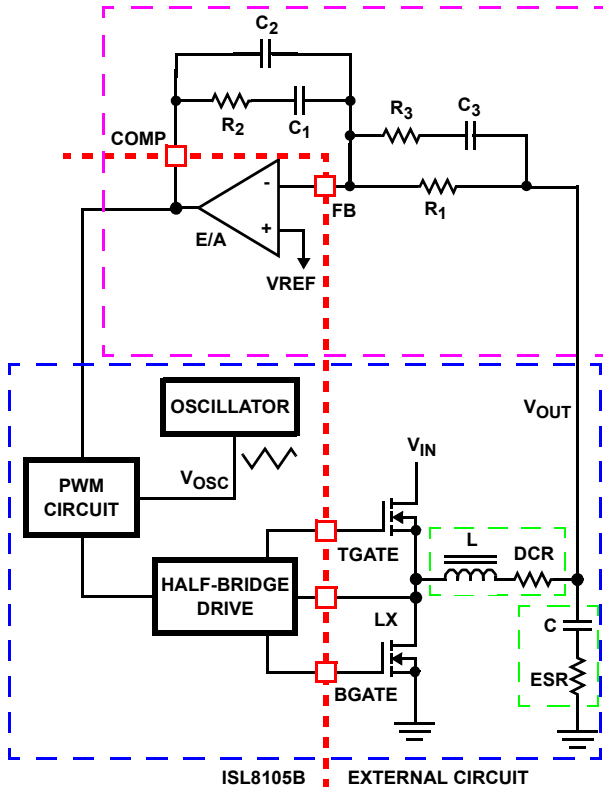

FIGURE 9. VOLTAGE-MODE BUCK CONVERTER COMPENSATION DESIGN
This section highlights the design considerations for a voltage-mode controller requiring external compensation. To address a broad range of applications, a type-3 feedback network is recommended (see Figure 9).
Figure 9 highlights the voltage-mode control loop for a synchronous-rectified buck converter, applicable to the ISL805B circuit. The output voltage ( $V_{OUT}$ ) is regulated to the reference voltage,  $V_{REF}$ , level. The error amplifier output (COMP pin voltage) is compared with the oscillator (OSC) triangle wave to provide a pulse-width modulated wave with an amplitude of  $V_{IN}$  at the LX node. The PWM wave is smoothed by the output filter (L and C). The output filter capacitor bank's equivalent series resistance is represented by the series resistor ESR.
The compensation network consists of the error amplifier (internal to the ISL8105B) and the external  $R_1$  to  $R_3$ ,  $C_1$  to  $C_3$  components. The goal of the compensation network is to provide a closed loop transfer function with high 0dB crossing frequency ( $F_0$ ; typically 0.1 to 0.3 of  $f_{SW}$ ) and adequate phase margin (better than  $+45^\circ$ ). Phase margin is the difference between the closed loop phase at  $F_{0dB}$  and  $+180^\circ$ . The equations that follow relate the compensation network's poles, zeros and gain to the components ( $R_1$ ,  $R_2$ ,  $R_3$ ,  $C_1$ ,  $C_2$ , and  $C_3$ ) in Figure 9. Use the following guidelines for locating the poles and zeros of the compensation network:
1. Select a value for  $R_1$  (1kΩ to 10kΩ, typically). Calculate value for  $R_2$  for desired converter bandwidth ( $F_0$ ). If setting the output voltage to be equal to the reference set voltage as shown in Figure 9, the design procedure is shown in Equation 5.